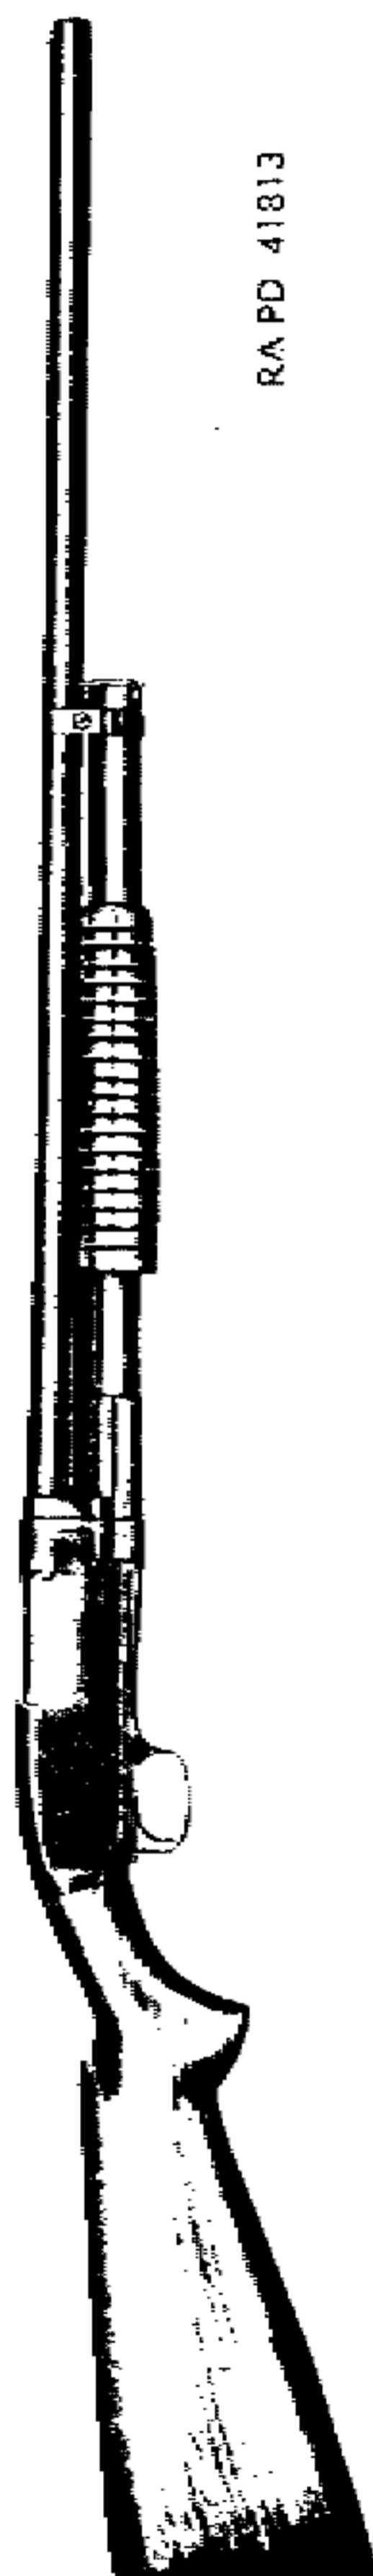

Figure 18—Right Side View—Sporting Trap Type—Winchester Shotgun M12
- (1) Name of maker, gage, model, and barrel boring are stamped on the top of the barrel near the breech end.
- (2) The serial number of the gun is stamped on the lower face of the barrel near the breech end, and on the lower face of the forward end of the receiver.
b. This gun (figs. 18 and 19) is a manually operated repeating shotgun of the slide action, hammerless, solid-frame and take-down type. The take-down gun is so constructed that the barrel and magazine together with the action slide group can easily be removed as a unit by disengaging interrupted threads on rear end of magazine and barrel from like interrupted threads in the receiver, by which the barrel and magazine are locked to the receiver. This construction facilitates cleaning and transportation of the gun. The construction of barrel magazine and action slide group is similar to, but not interchangeable with the Winchester M97 take-down type of gun described in section II. The receiver and operating mechanism, however, differ widely in design. The solid frame type of gun, when issued, will be constructed with barrel and magazine similar to the modified solid-frame Winchester M97 gun (par. 4 c).
(1) The riot-type gun is usually furnished with a 20-inch plain barrel, bored cylinder, and may be equipped with a bayonet attachment and hand guard attached to the muzzle end of the barrel, and a leather sling attached to a sling swivel on the bayonet attachment and the stock. If equipped with bayonet attachment it is solid-frame. Refer to paragraph 3 i.
(2) The sporting skeet-type gun is usually furnished with a 26-inch plain or ribbed barrel, bored improved cylinder, and is without bayonet attachment or sling.
(3) The sporting trap-type gun (figs. 18 and 19) is similar to the skeet-type gun but is furnished with a 30-inch barrel, bored full choke, and is without bayonet attachment or sling.